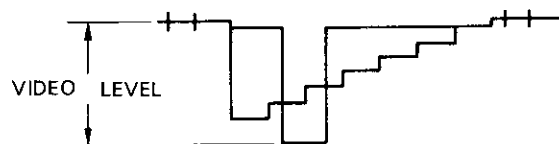

Fig. 73
- ① Set the "MODE" switch on the front panel to the MONO mode, and the "FILTER" switch to the COMB position.
- ② Turn the contrast control fully clockwise.
- ③ Connect the oscilloscope probe to TP27R.
- ④ Adjust the "R DRIVE" control inside the hinged door of the front panel so that the video level becomes 50Vp-p .
- ⑤ In the same manner, connect probe TP27G and TP27B with the oscilloscope and adjust the "G DRIVE" and "B DRIVE" controls on the front panel so that their respective video levels become 50Vp-p .
- ⑥ Set the "CONTRAST" control on the front panel to the original preset condition, and connect the probe to TP27R.
- ⑦ Turn the "NTSC CONTRAST" preset control inside the hinged door of the front panel and adjust the video level to 40Vp-p . (Fig. 73)